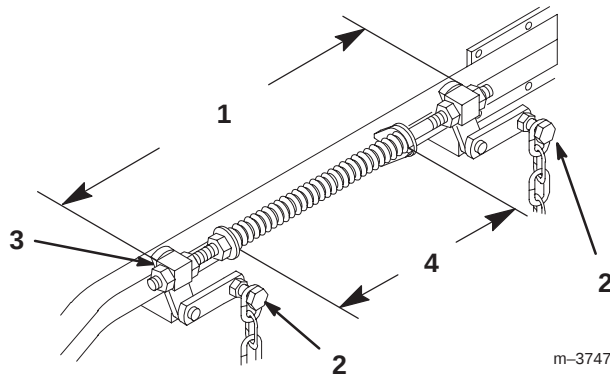

Figure 62
6. Loosen four (4) top chain bolts in slots. Check the length of the rod/swivel assemblies. Distance from outside of rear swivel to outside of front swivel should be 19-17/32 inch (496 mm) (Fig. 62). Make sure that all four swivels move freely in holes.
- Springs are compressed so the distance between the two large washers should be 10–1/4 inch (260 mm) (Fig. 62).
- Adjust by turning nut in front of each spring (Fig. 62). Clockwise will shorten spring; counter-clockwise will lengthen spring.